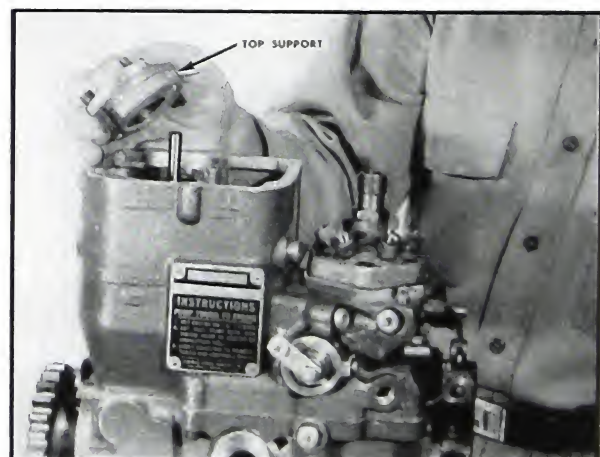

Fig. 5-358. Assemble top support
1. Assemble the top support to the housing without the idle spring. Use four 1/4"—20 x 1" socket head capscrews, lockwashers and flat steel washers. Keep the flat washers next to the aluminum. Fig. 5-358.